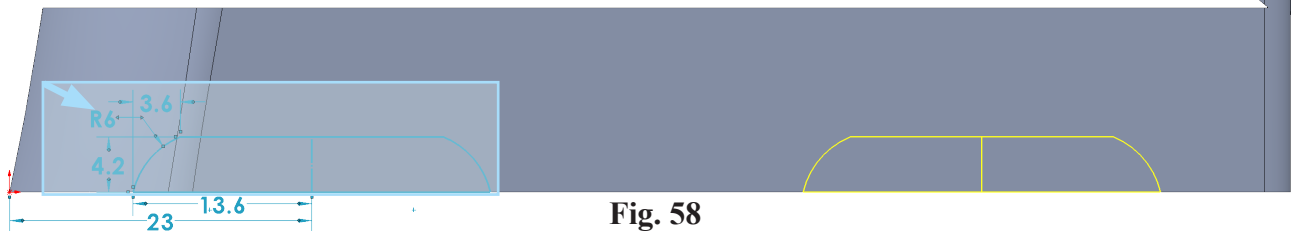

Fig. 58
Step 14. **Drag a selection to select all, Fig. 58.**